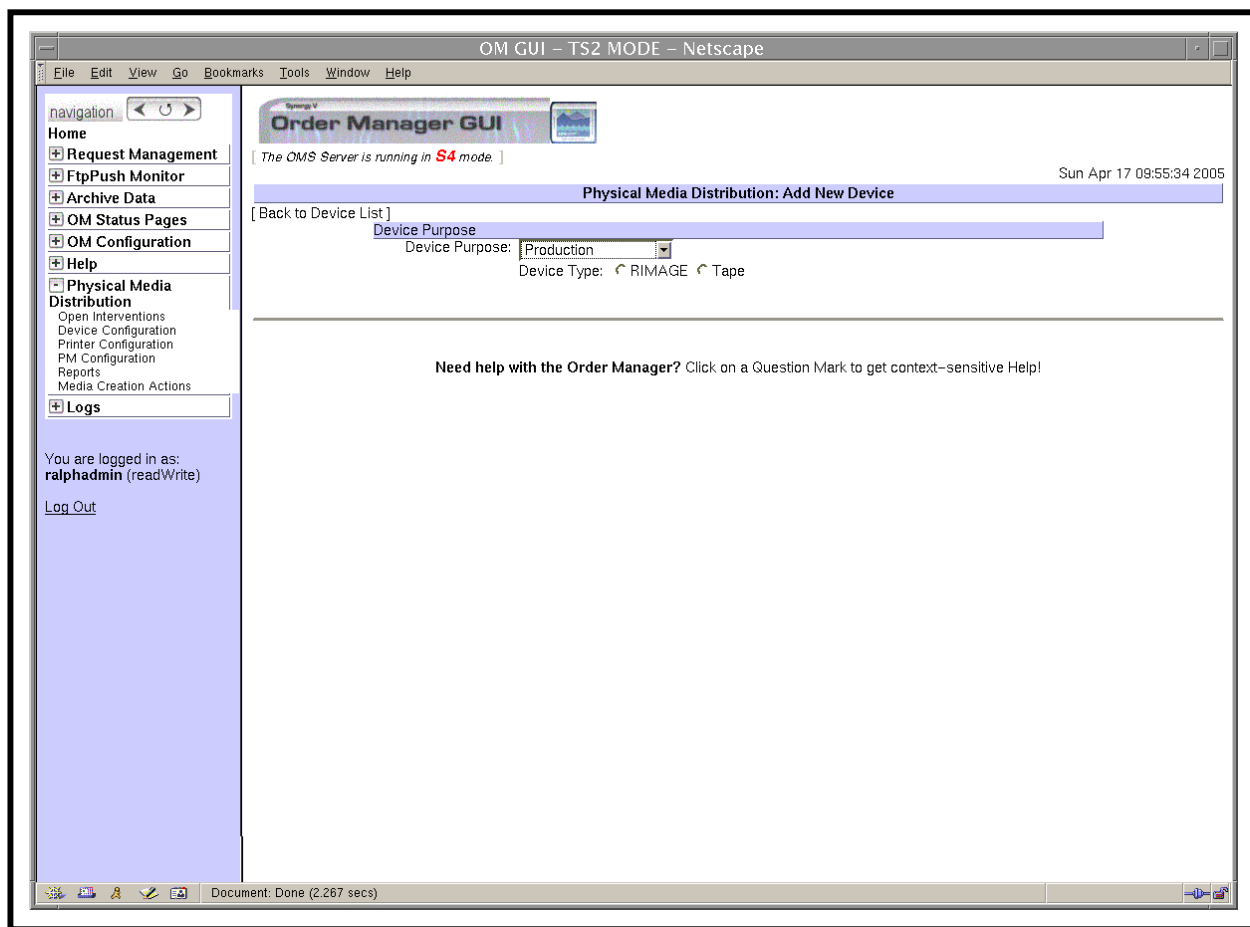

Figure 79. Add New Device Page with Device Type Radio Buttons
- If **Production** was selected, the **Add New Device** page displays **Device Type** radio buttons (as shown in Figure 79).